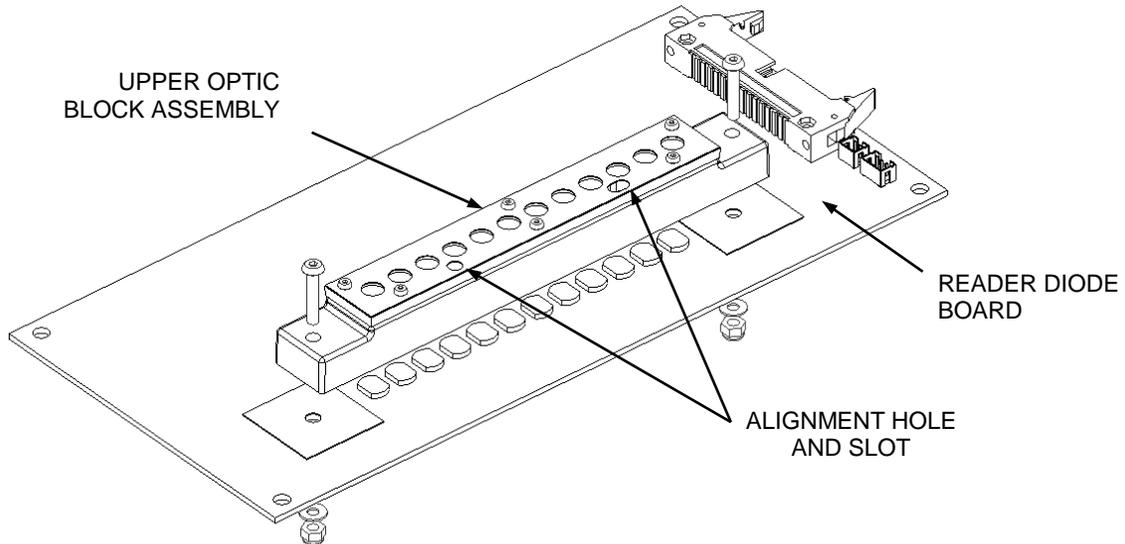

Figure 12-47: Reader Diode Board
1. Remove the Upper Optic Assembly from the reader diode board by removing the two screws (Figure 12-47).